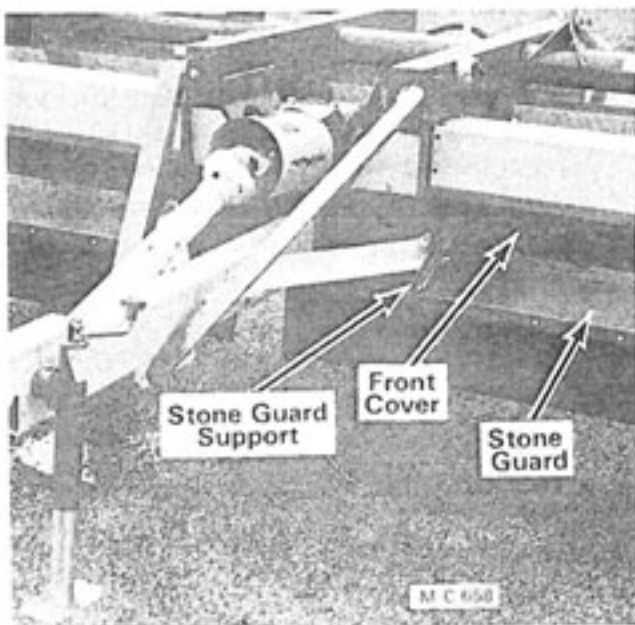

Figure 10 - Model 2408 Shown
4. Install the assembled stone guards to the Shredder front cover, see Figure 10 page 8. Use  $\frac{3}{8}$ " - 16 X 1" (Grade 5) hex-head capscrews, flatwashers and locknuts to secure the stone guard supports to the Shredder front cover. The flatwashers go under the locknuts. Use  $\frac{3}{8}$ " - 16 X  $\frac{3}{4}$ " (Grade 5) hex-head capscrews and locknuts to secure the stone guards to the Shredder front cover.